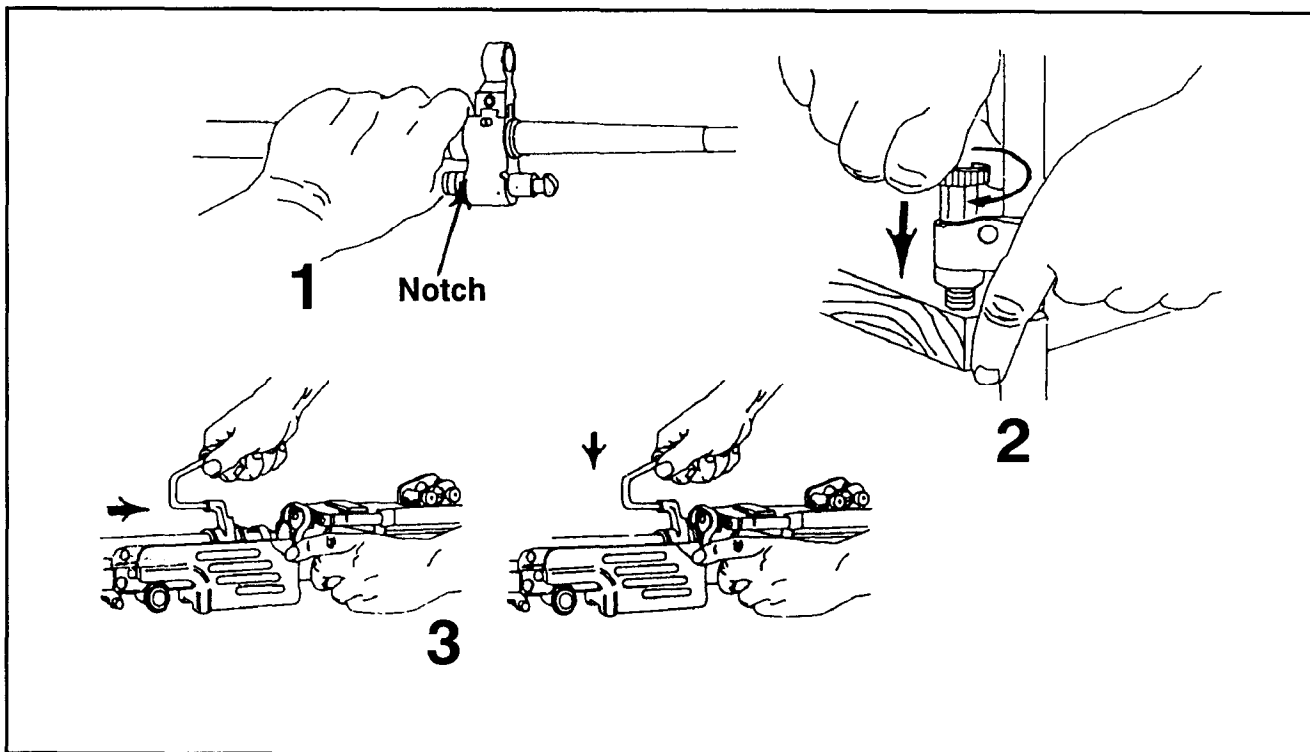

Figure 2-21. Replace the barrel group.
f. **Replacing the Barrel Group.** Insert the gas regulator into the gas block and align the notch on the gas regulator with the notch of the gas block. With the gas regulator installed and supported on a firm surface, place the gas regulator collar onto the protruding end of the body and align the spring with the stud. Push the gas regulator collar downward firmly and rotate it until it slips into place. Then, press it in and rotate it to lock it in place. Depress the barrel locking lever to the rear with your left hand, while holding the carrying handle with your right hand. Pull the barrel rearward and push downward; align the gas regulator with the gas cylinder and lock it by releasing the barrel locking lever. Check the barrel to ensure it is locked into the receiver by pulling or lifting on the carrying handle. Replace the heat shield by placing the hook end of the heat shield under the front sight post and press down until the clamps lock on the barrel. (Figure 2-21.)